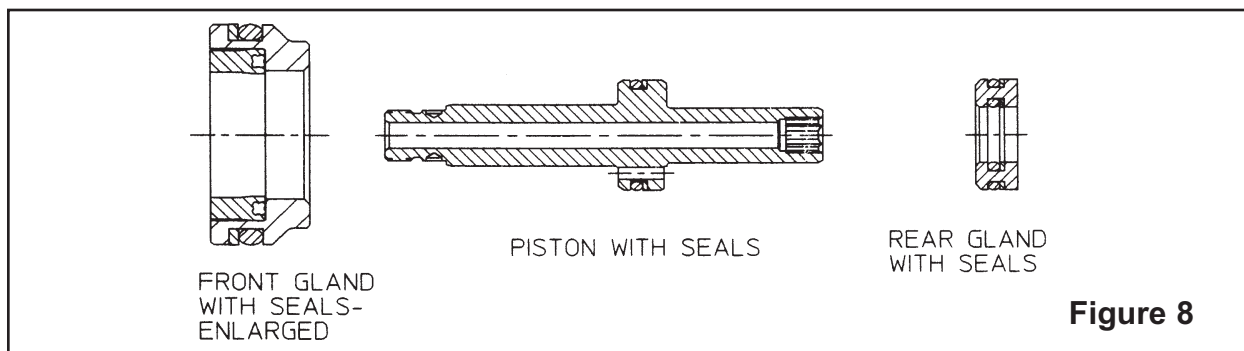

Figure 8
Refer to Figures 8, 8a, 8b, 8c, 8d, 9, 10 and 11 and **MAINTENANCE**: General Precautions - - clean out O-ring grooves and reinstall perishable parts (seals, etc.) - - see below. **Use service kit, 2480KIT.**
1. Thinly coat SUPER 0-LUBE, or equivalent, on seals and mating surfaces. Assemble O-rings and back-up rings to piston, front gland, and rear gland as shown in Fig. 8. See caution above - - press **POLY-SEAL** into front gland housing.